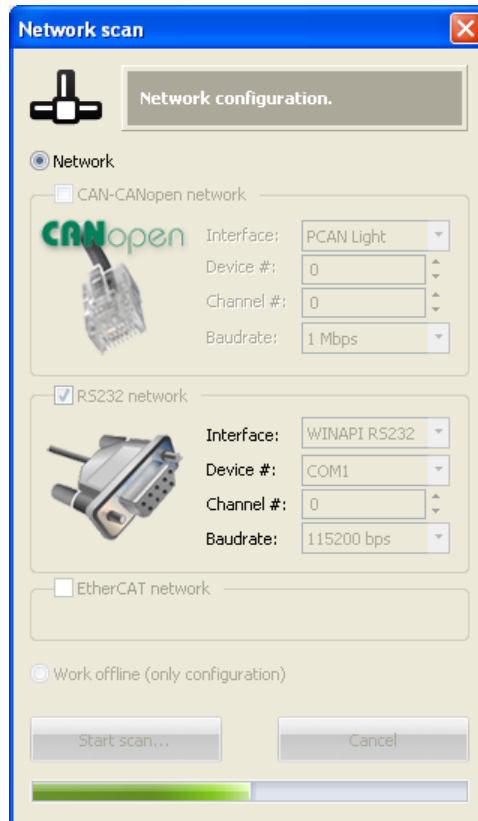

Figure 2: Looking for nodes in the bus
2. **Detecting nodes in the bus:** Once the interface is selected and Start scan button pressed the software will look for all nodes connected to the bus. See Figure 2